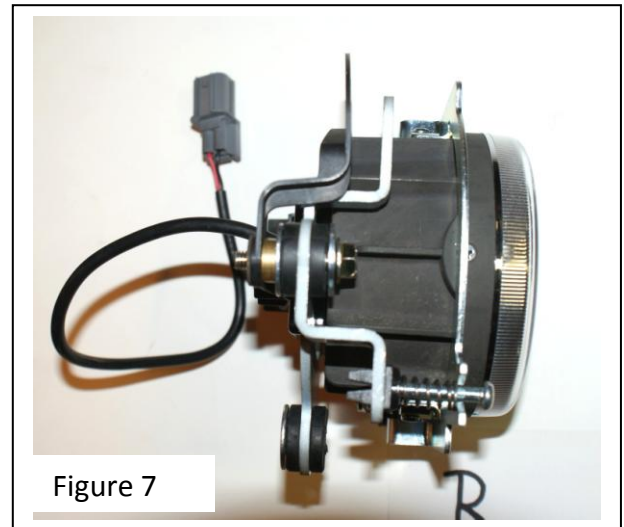

Figure 7
**10.** Using 8mm wrench, remove right side plastic trim piece, Figure 6. Install right fog lamp using three M6 x 35mm flange bolts, flat washers, 4mm spacers (for 2001 – 2005 models), and plastic trim piece, Figure 7. Plug the 2-pin gray connector into the motorcycle 2-pin gray connector. Located near horn. (The motorcycle 2-pin connector will be plugged and taped. Remove plug and tape.).